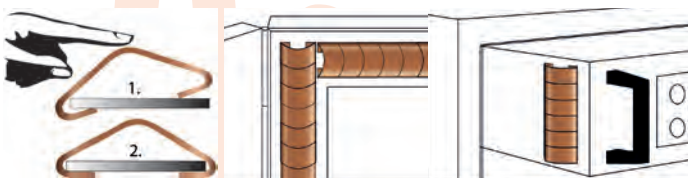

Figure 98: Snap-on fingerstrips for slot mounting and large compression
- 98** **When there is a wide range of compression required**, our 2200 series Snap-on Fingerstrips or our 2300 series Stick-on fingerstrips may be suitable. These fingerstrips with self-adhesive can be integrated in the construction. Snap-on Fingerstrips can be firmly mounted in slots in your construction so that also a compression to nearly 0.25 can be realized. (Fig. 98)